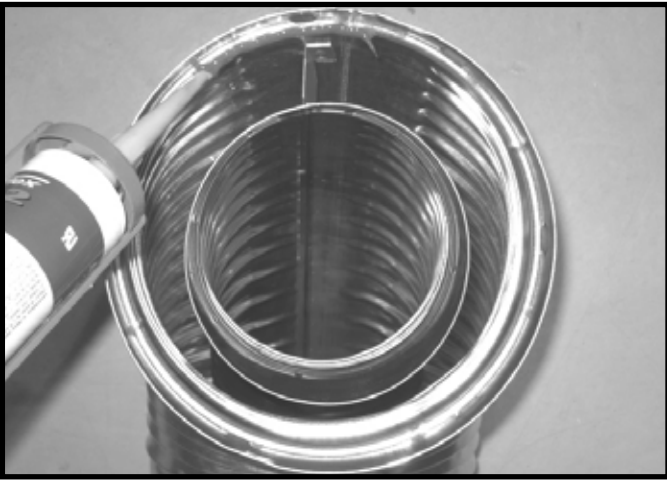

Figure 7.1 High Temperature Silicone Sealant
- Apply a bead of silicone sealant (300 °F minimum continuous exposure rating) inside the female outer pipe joint prior to joining sections. See Figure 7.1 **OR**